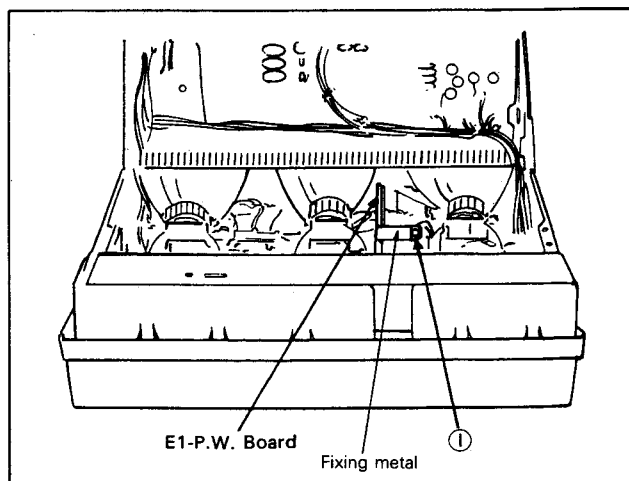

Fig. 7
- Remove a screw ⑥, and remove the E1-P.W. board fixing metal as shown in Fig. 7.